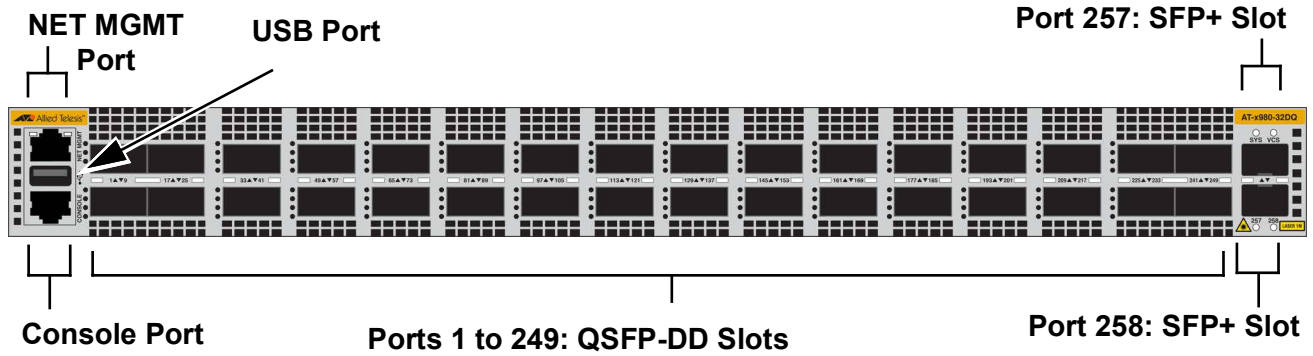

Figure 3. Front Panel of the x980-32DQ Switch
**x980-32DQ Switch** Figure 3 shows the front panel of the x980-32DQ switch.